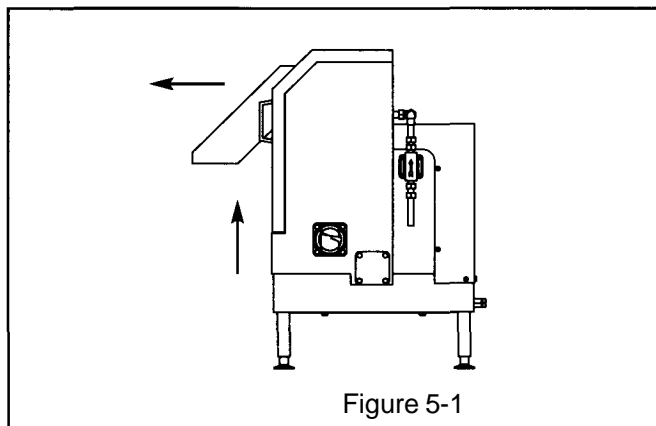

Figure 5-1
2. Holding both handles, remove discharge chute by tilting it upward (see figure 5-1).